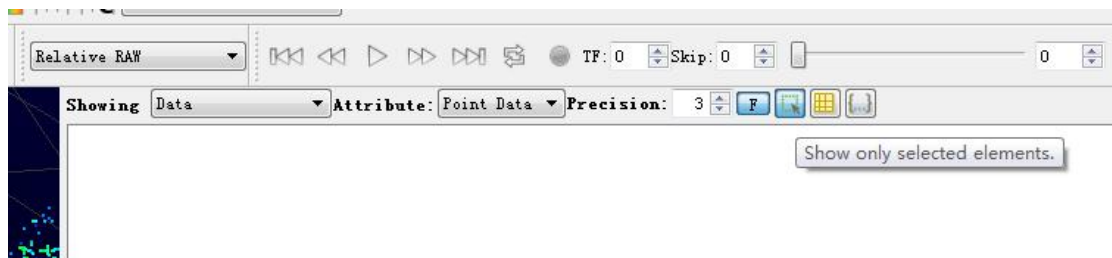

Fig C-11 RSView Show Only Selected Elements
7. Click **Show only selected elements** in the Spreadsheet (Fig C-11). Since no points are selected yet, the table will be empty.